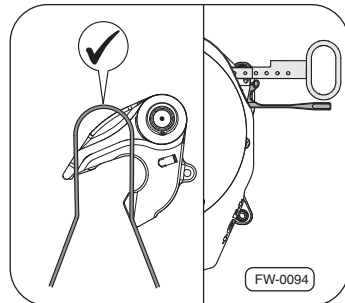

Fig. 9 · Opening the lock part
3. Ensure that the lock part swings open fully and the handle remains in a position to engage Fig. 9.